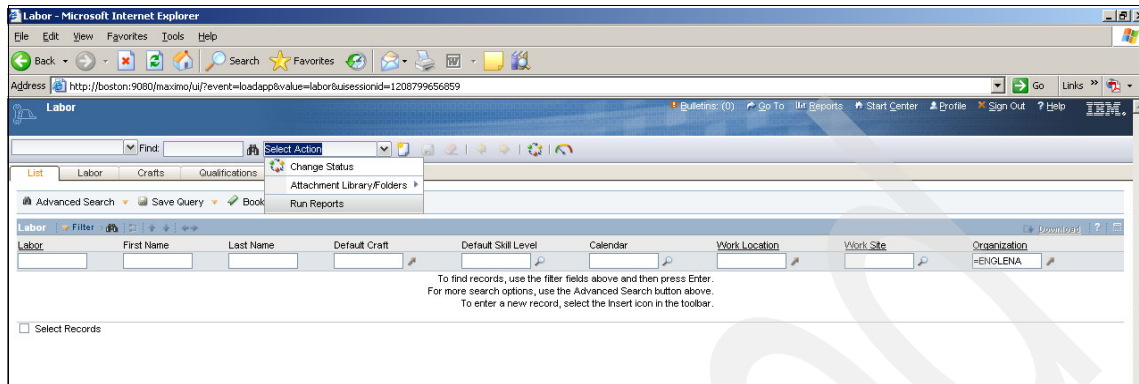

Figure 5-39 Run Reports
- From the Labor application, click **Select Actions** → **Run Reports** (see Figure 5-39).